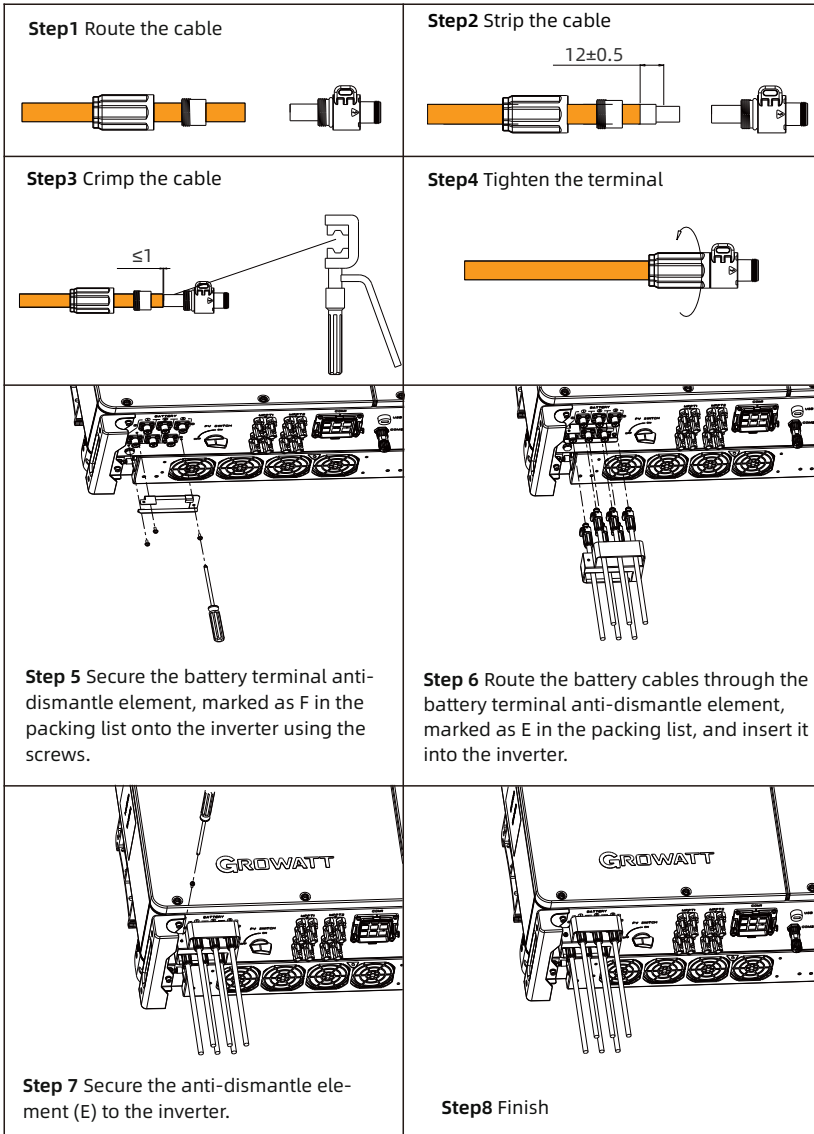

Fig 6.15 Position of the battery terminals
4. Connect the battery cables to the battery terminals on the inverter, as shown in Fig 6.15;